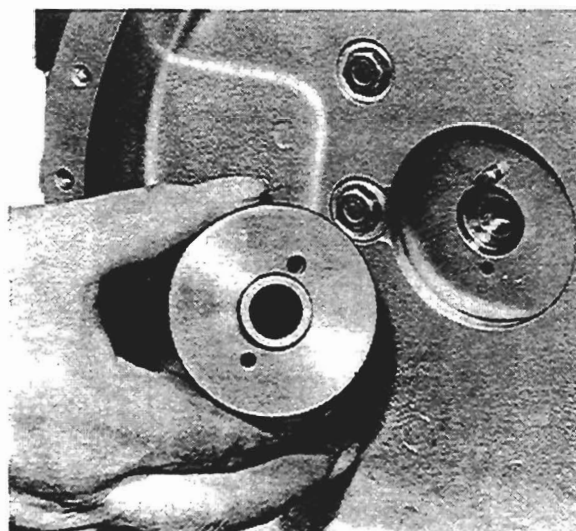

Fig. K4A
4. Remove idler gear hub from its bore in the timing case. (See fig. K4A).